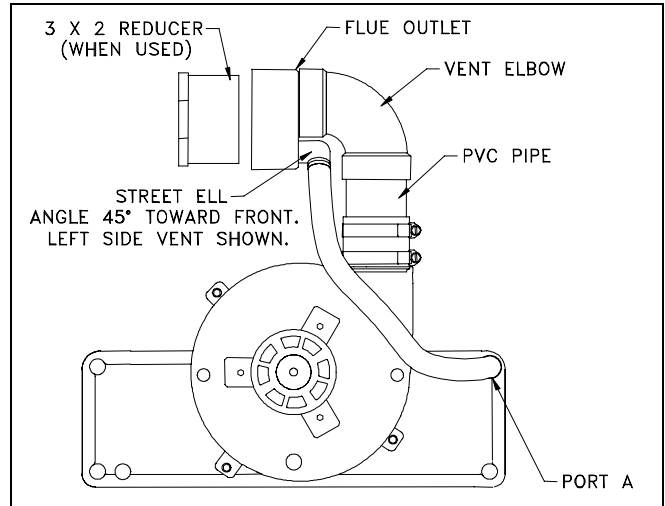

Figure 8. Downflow Vent Connection.
3. Cement 2" PVC pipe, 2" PVC elbow, and flue outlet together as shown in Figure 8. Position flue outlet such that street ell will be directly below vent elbow.